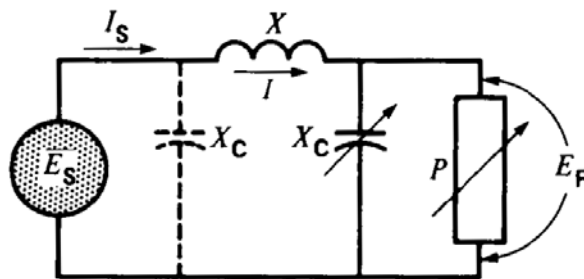

Figure 6.1
6. (a) The equivalent circuit for a distribution system is shown in Figure 6.1. The following parameter is given as,  $E_R=6000V$ , equivalent load resistance is  $45 \Omega$ ,  $X_L=15 \Omega$ ,  $X_C=150 \Omega$  parallel with load. Neglecting the dotted reactance  $X_C$  in parallel with the source, calculate the following: